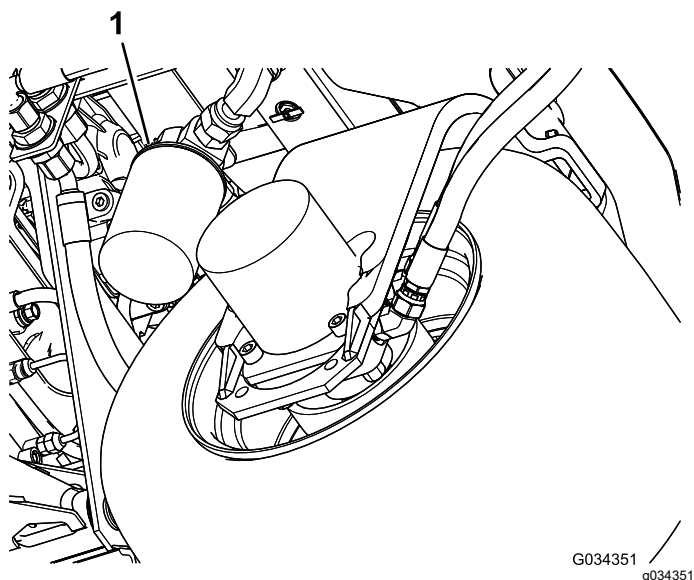

Figure 79
2. Clean around the filter mounting area. Place a drain pan under the filter (Figure 79) and remove the filter.